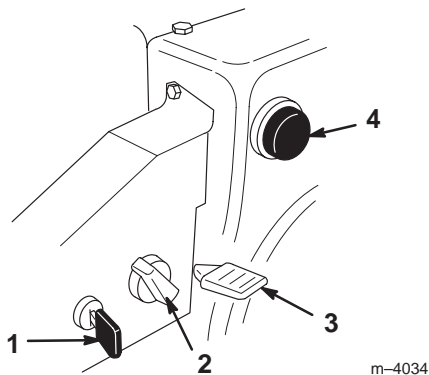

Figure 15
- **Ignition Switch** (Fig. 15)—Insert the key before starting the engine. To stop the engine, remove the key.
- **Choke** (Fig. 15)—Rotate the choke clockwise to the **On** position to start a cold engine. As engine warms up, gradually rotate the choke counterclockwise to the **Off** position.
- **Throttle** (Fig. 15)—Move the throttle upward to increase the engine speed; move it downward to decrease the engine speed. Move the throttle to the **Stop** position to stop the engine.
- **Primer** (Fig. 15)—Press the primer to pump a small amount of gasoline into the engine for improved cold-weather starting.
2. Remove the key from the ignition switch (Fig. 15).
3. Pull the choke knob off (Fig. 15).
5. Rotate the choke (Fig. 15) to the **On** position.
6. Insert the ignition key (Fig. 15).
7. Cover the hole in the center of the primer (Fig. 15) with your thumb and push in the primer 3 times, pausing a moment between pushes.
10. After the engine starts, immediately rotate the choke (Fig. 15) to the 3/4 position. As the engine warms up, rotate the choke to the 1/2 position. When the engine warms up sufficiently, rotate the choke to the **Off** position.